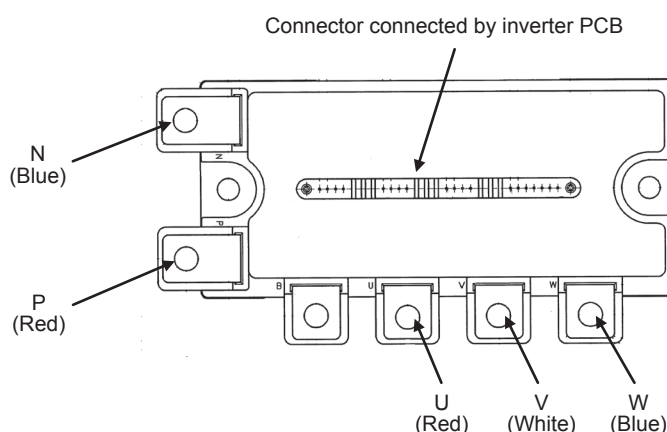

Fig.1 Parts arrangement view
- Disconnect with the wire (U, V, W, P, N) to the transistor module. (Refer to Fig.1 Parts arrangement view.)